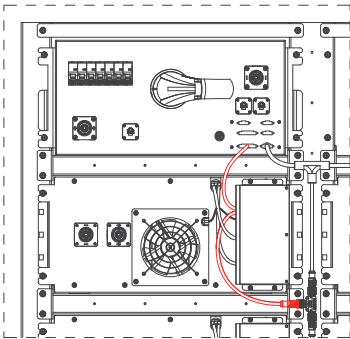

Figure 2.8
(4) Connect the BMU communication port of the main control box with first battery’s BMU box, and connect the BMU box fan power input to the fan power supply system(Figure 2.8).